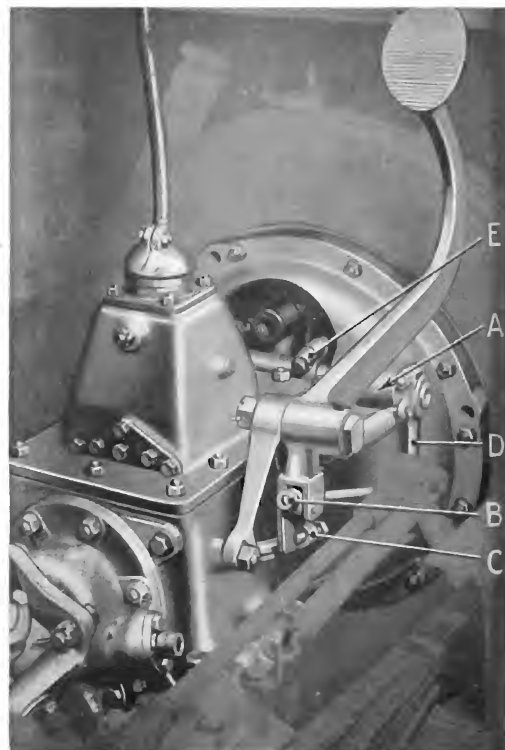

Fig. 1.
The withdrawal race is lubricated from a nipple in the chassis battery which is connected at the union (S), Fig. 3, separate nipples at (A), Fig. 1, are provided in each of the cross-shaft bushes. The centralising bearing (Q), Fig. 3, is packed with high-melting-point grease on assembly and only requires attention at overhaul.
2. **Cross-shaft Bushes.**—Weekly through the nipples at (A), Fig. 1, using gear oil.
The only adjustment required is to maintain $\frac{3}{4}$ in. free travel on the clutch pedal. To adjust, slack off the lock nut and adjusting nut (B), Fig. 1 until the required free travel is obtained, then tighten the lock nut. The stop-screw (C) should not be disturbed.